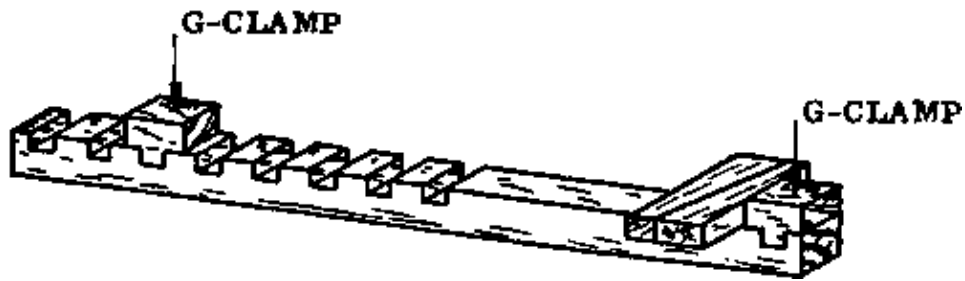

Fig. 5
– To punch a nail under the surface of the wood, hold the punch in place on the nailhead, steadying your hand on the board (Fig. 5), and hit it with the hammer.